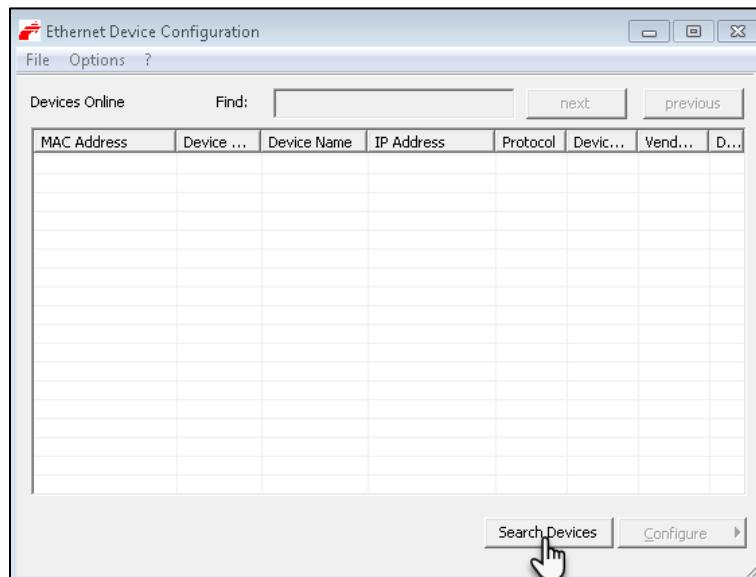

Figure 6: EDC Search Screen
- Click on **Search Devices** button to locate your EXT card (see **Figure 6** below).